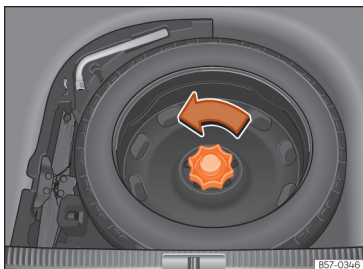

Fig. 241 In the luggage compartment: raised load floor.
- Turn the thumb wheel anticlockwise >>> **Fig. 241**.